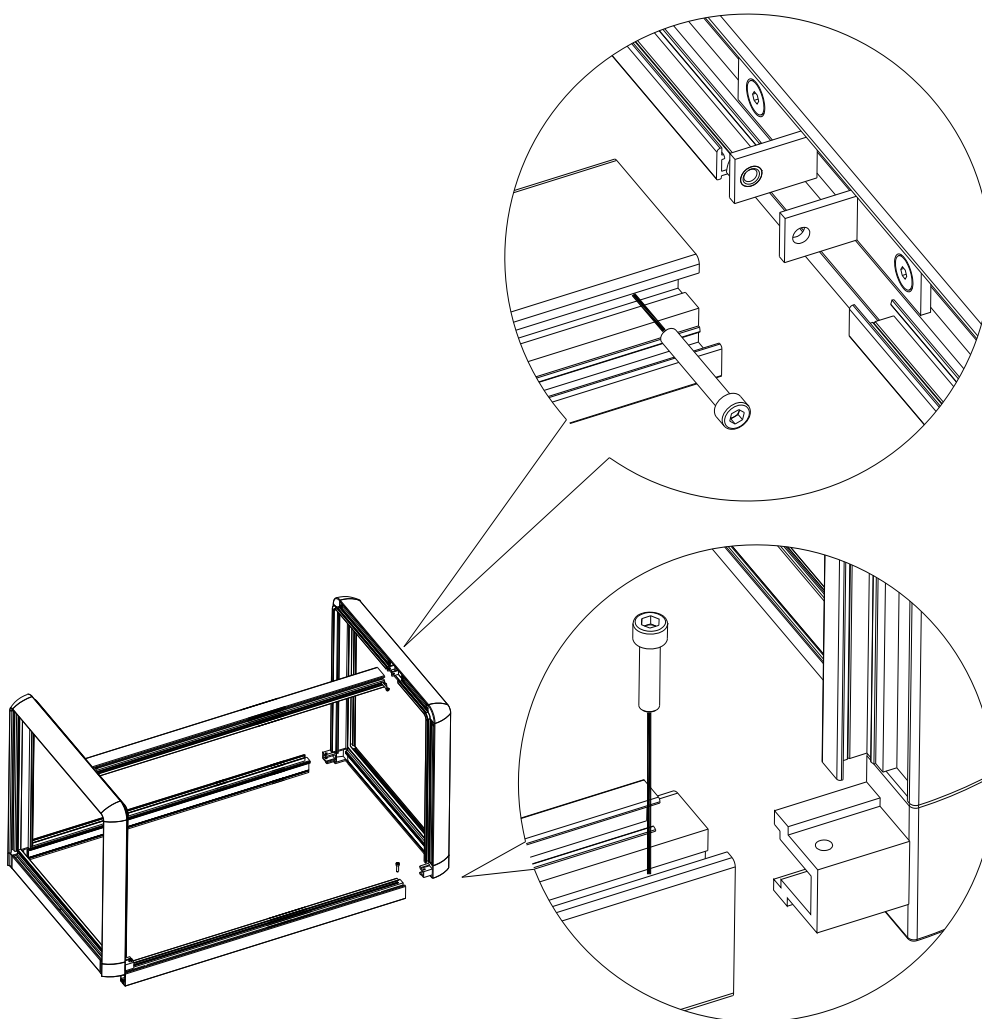

Figure 28: exploded view sound shield Whisper 8 Ultra
- 2 The sound shield can be disassembled according to exploded view below (figure 28).